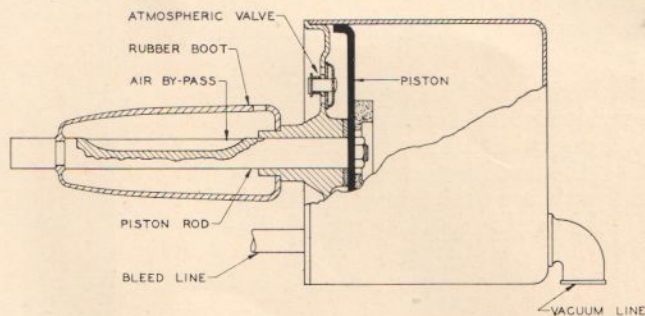

Fig. 2
The vacuum cylinder, *Figure 2*, contains a piston which divides the cylinder into two chambers. The front or air chamber is opened to the atmosphere as required through three passages,—(1) the air by-pass slot in the piston rod, (2) the atmospheric valve in the cylinder head, (3) the bleeder line leading to the bleeder valve in the control valve unit.